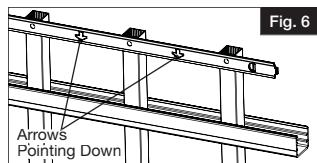

Fig. 6
- Push bolts through post plate and attach separate bottom plate from beneath deck surface (Fig. 6).
d. Snap in bumps from locking strip into holes of the baluster for both top and bottom rails. Make sure arrows on locking strip face rails (Fig. 6). Arrows will point towards each other during assembly. Run your fingers along both the rails to ensure locking strip is fully engaged prior to moving on to Step 3. Strips must be fully engaged to lock balusters in place.
- For the bottom rail only, add $\frac{3}{4}$ " (toward the rail end or post) to the marks made on the panel in step 3 (Fig. 6) and cut the panel at these marks.